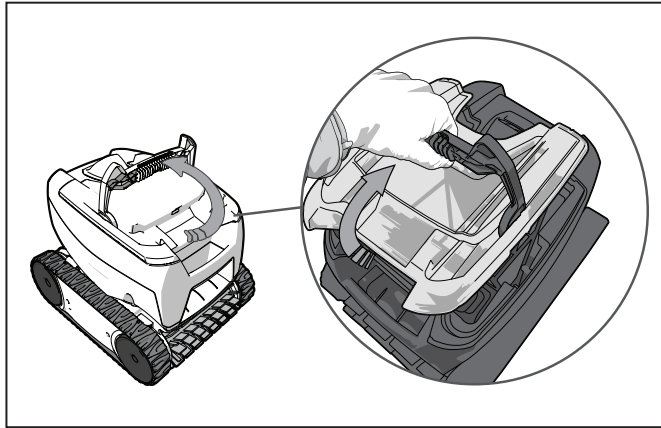

Figure 10. Release Filter Canister Handle
2. Pull up to release the filter canister handle (Figure 10).